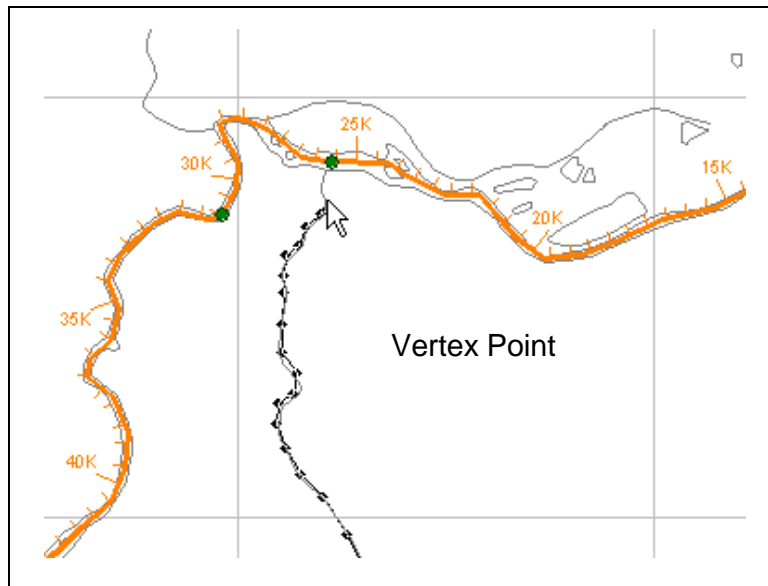

Figure 5.6 Drawing a Stream Element
4. Hold down the **CTRL** key. Starting at the *upstream* end, draw the stream element by clicking the left mouse button at each vertex point as illustrated in Figure 5.6.